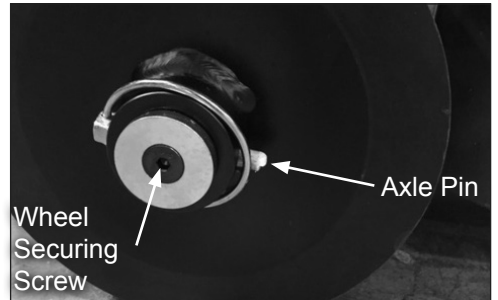

FIG. 14
4. Remove axle pin (Figure 14).
5. Remove wheel securing screw. (Figure 14).